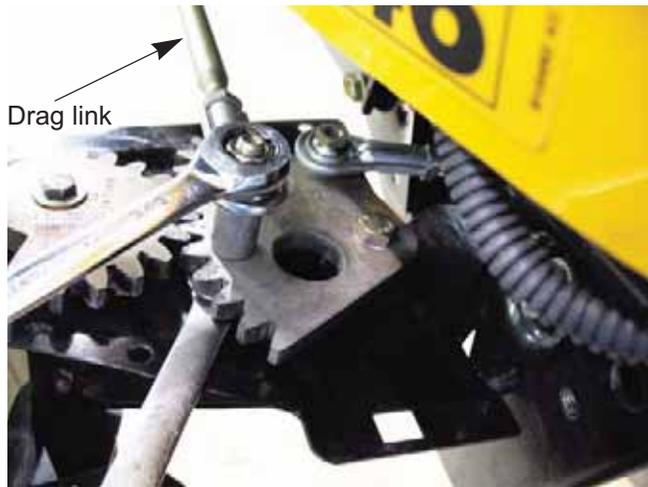

Figure 6A.85
2. Remove and discard the nut holding the drag link to the inboard steering gear using two 9/16" wrenches (one of them should be a slim-line wrench). See Figure 6A.85.